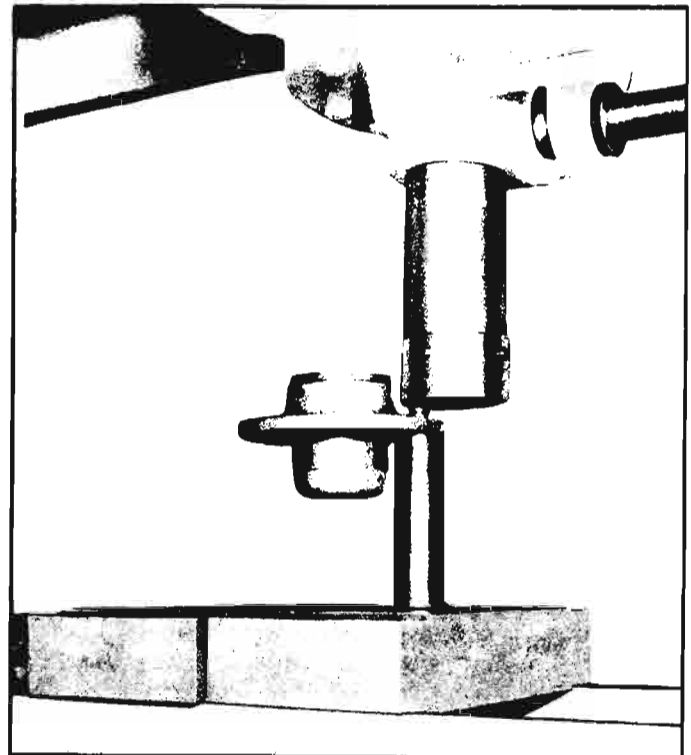

Fig. 3-8—Peening Front Hub Bolts
4. Install new hub bolts by pressing serrations into hub with arbor press until undersurface of head fully contacts hub flange (fig. 3-8). The end of the shoulder on the hub bolts should be peened into
the countersink around the bolt holes in the hub flange, using Tool J-0544 (fig. 3-8).